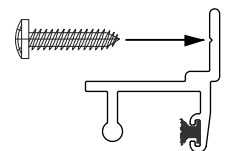

Figure 3
Drill three (3) 3/16" holes in each track, one approximately 2" from each end, one approximately in the middle. Locate the holes using the groove in the track flange (Figure 3). Note: Holes may be pre-drilled from the factory.